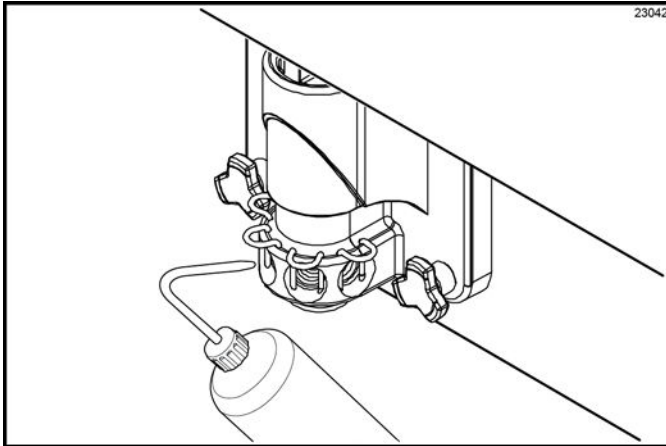

Figure 6-65
15. Fill the squeeze bottle with cleaning solution. With a pail beneath the door, insert the tube end of the squeeze bottle into the syrup ports, and squeeze the bottle firmly. This action will force solution out of the adjacent port and down around the spinner. This procedure should be performed for at least 10 seconds per port. (See Figure 6-65.)